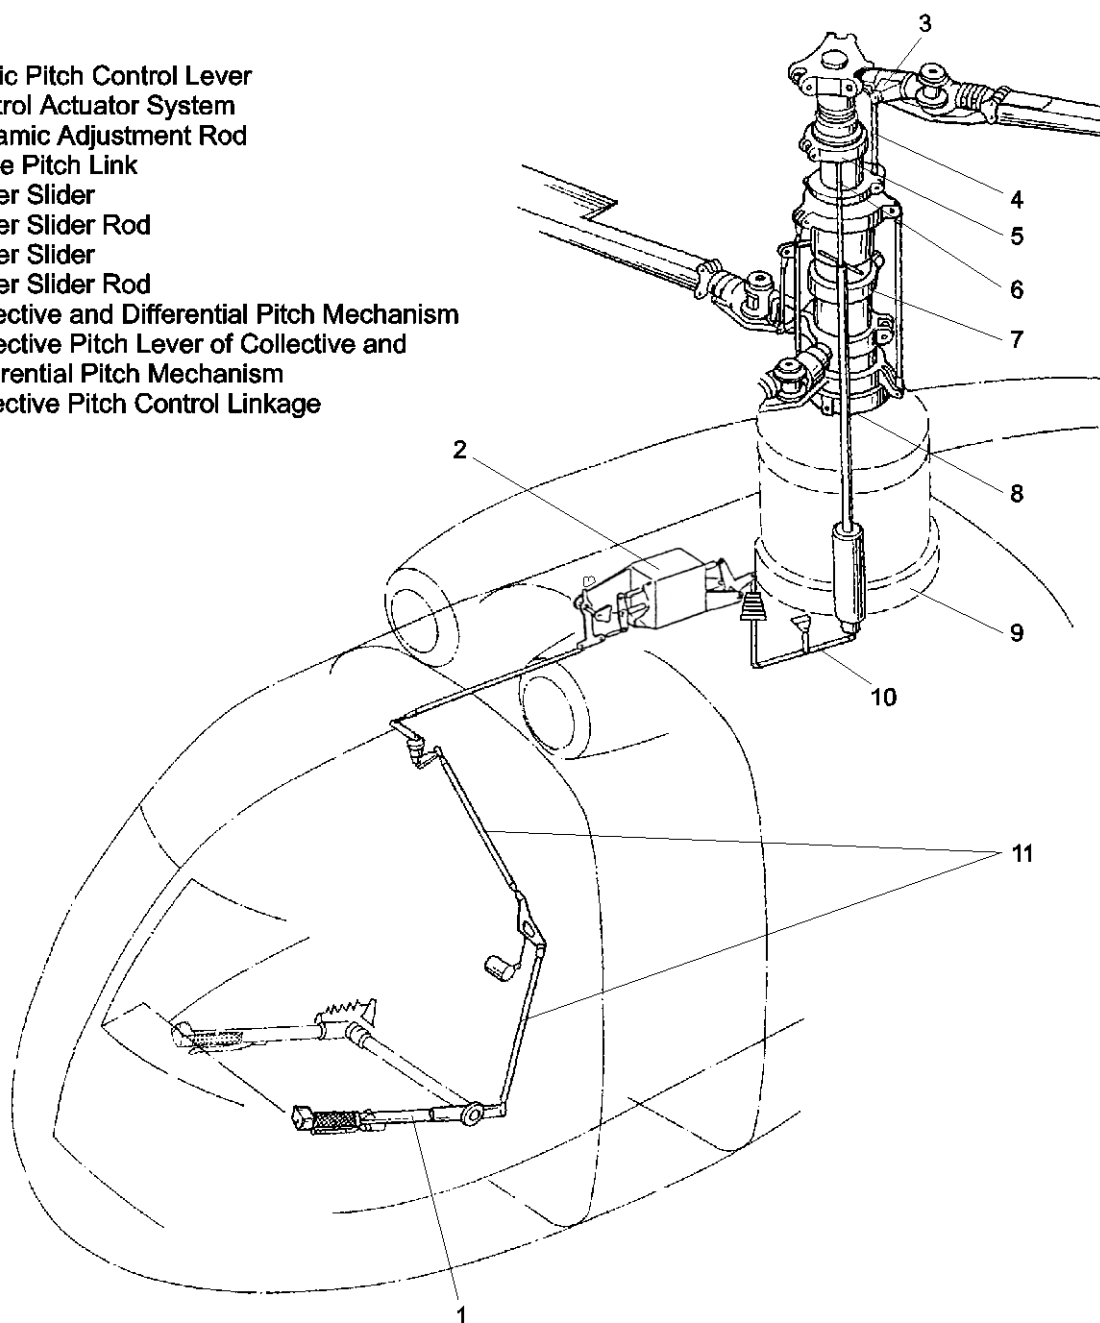

Fig. 1-22. Collective Pitch Control.
- collective pitch control system (Fig. 1-22).